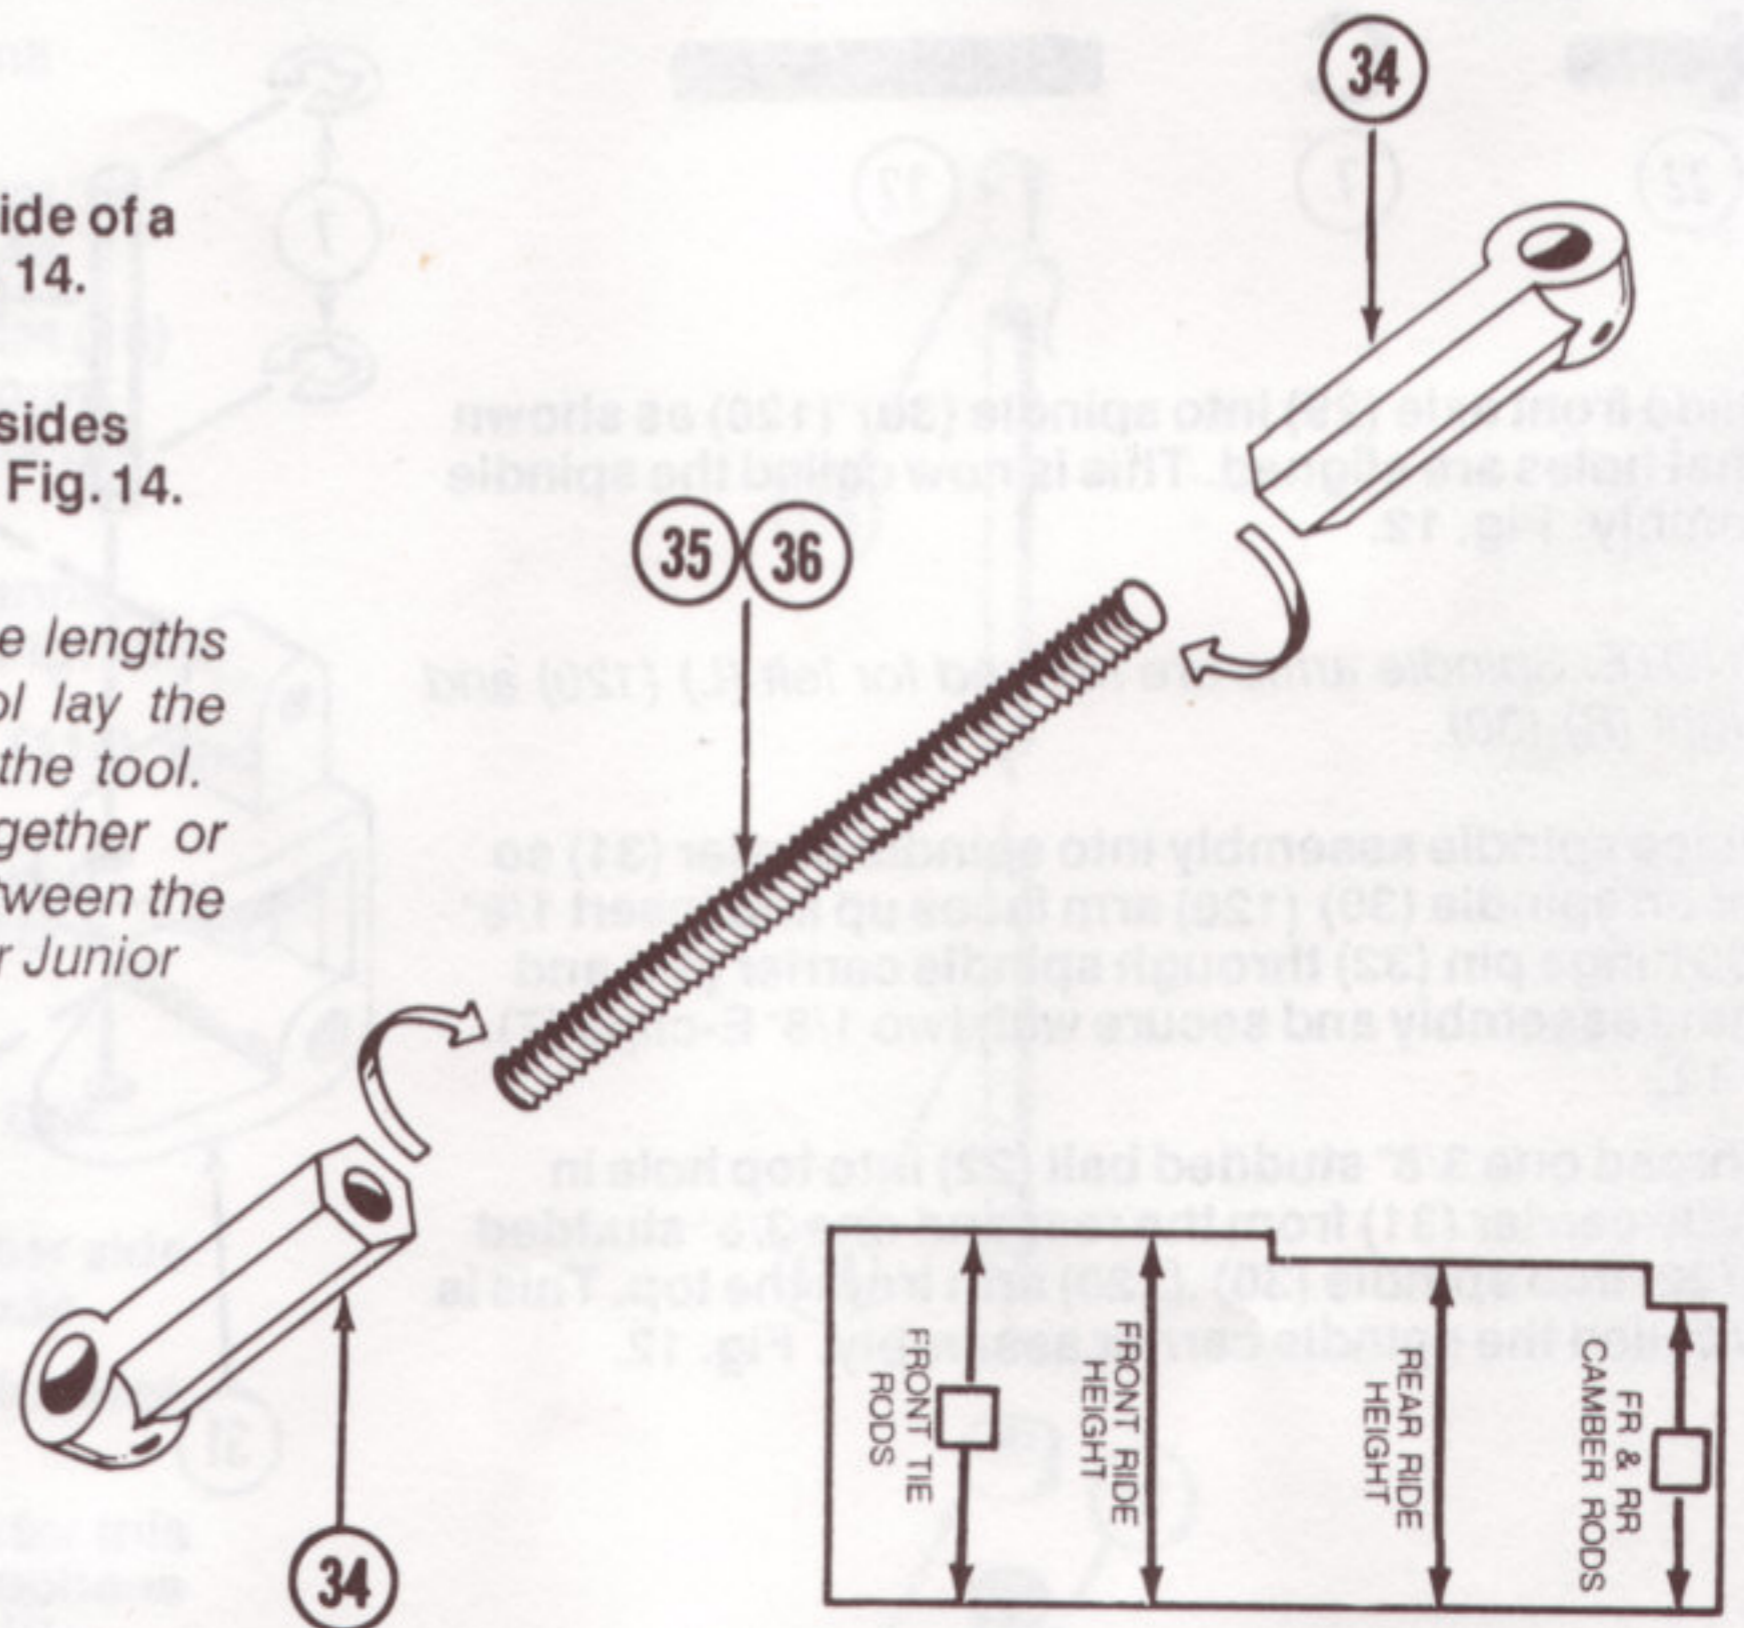

FIG. 14
9. Thread an adjustable rod end (34) onto each side of a 1 1/2" threaded rod (35). This is assembly A. Fig. 14. These are front camber rods.
10. Thread an adjustable rod end (34) onto both sides of a 1 7/8" threaded rod (36). This is assembly B. Fig. 14. These are front tie rods
* NOTE: Use set-up tool provided to adjust the lengths of adjustable links. To use the set-up tool lay the threaded rod against the desired arrow on the tool. Screw the rod ends (34) equally closer together or further apart until the arrow on the tool fits between the rod ends (34). Ride height values are valid for Junior Two car only.